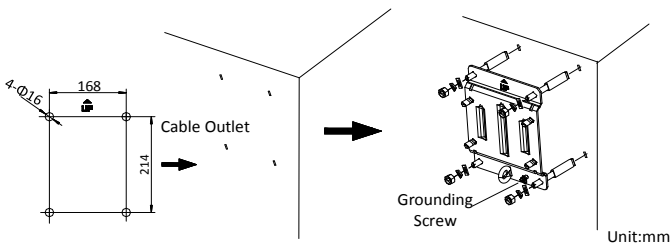

Figure 2-5 Install the Installation Plate
2. Insert the flag washer and the spring washer. Then tighten the four screws to secure the installation plate as shown in Figure 2-5.